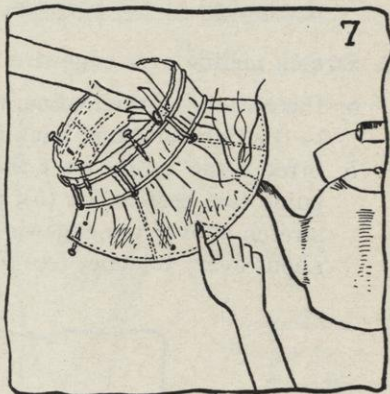

FIG. 7.
- b. Hold maline over the steam, and stretch out any fullness by gently pulling the maline into headsize, while it is damp (see Figure 7). Pin it firmly at the top headsize wire.
- a. Let the flange extend beyond the edge of the brim (see Figure 7 A, page 254).
at the direct front, working from the front on either side toward the back (see Figure 7 A).
- e. As soon as your teacher approves, cut away any rough edges of the steamed maline at the lap, so that the flange laps 2 inches across the direct back (see Figure 7 B).
- b. Set the flange under and inside the headsize band, just as if you were making a draped brim with bias crinoline (see Figures 7 and 8 A and B of Job 9, page 39)